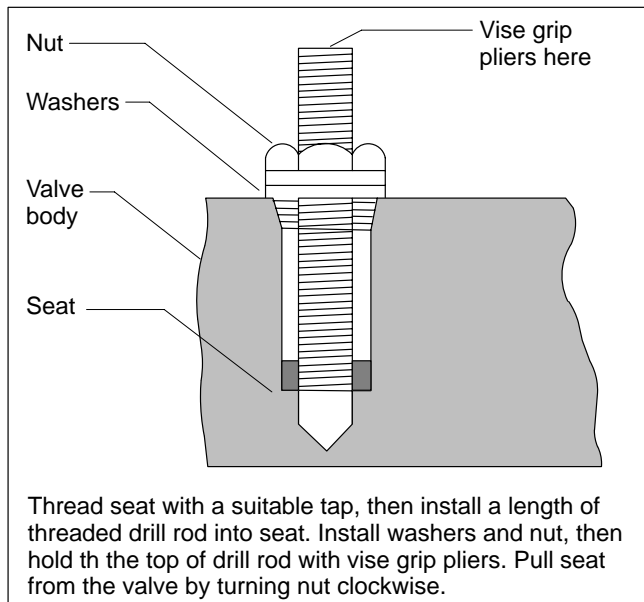

Figure 4. Removal of seat
3. Inspect metering spool (12) and hydrostat (20) for excessive wear, galling, erosion, and burrs. Remove burrs with an India stone. If either of the spools are defective, check body (30) bores for similar defects. Replace defective parts.
4. Inspect check valve (26) for excessive wear, erosion and burrs. The seat contact area of the valve should have a bright circular contact area. Leakage paths across the check valve will show up as a break in the bright circular area. Erosion of the seat area may also cause a leakage path to develop. If seat (27) requires removal, tap seat with an appropriate thread, then install a length of threaded drill rod into the seat. Remove seat from the valve body. See Figure 4.